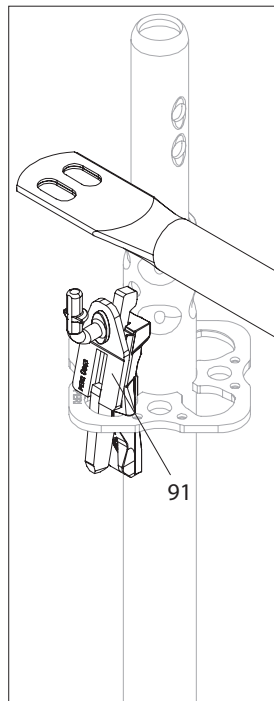

Fig. A11.03a
1. Insert Guardrail Holders EPW (91) into the rosettes of the Standards UVR-2. Guardrail hooks must point inwards towards the deck. Secure the wedges. (Fig. A11.03a)